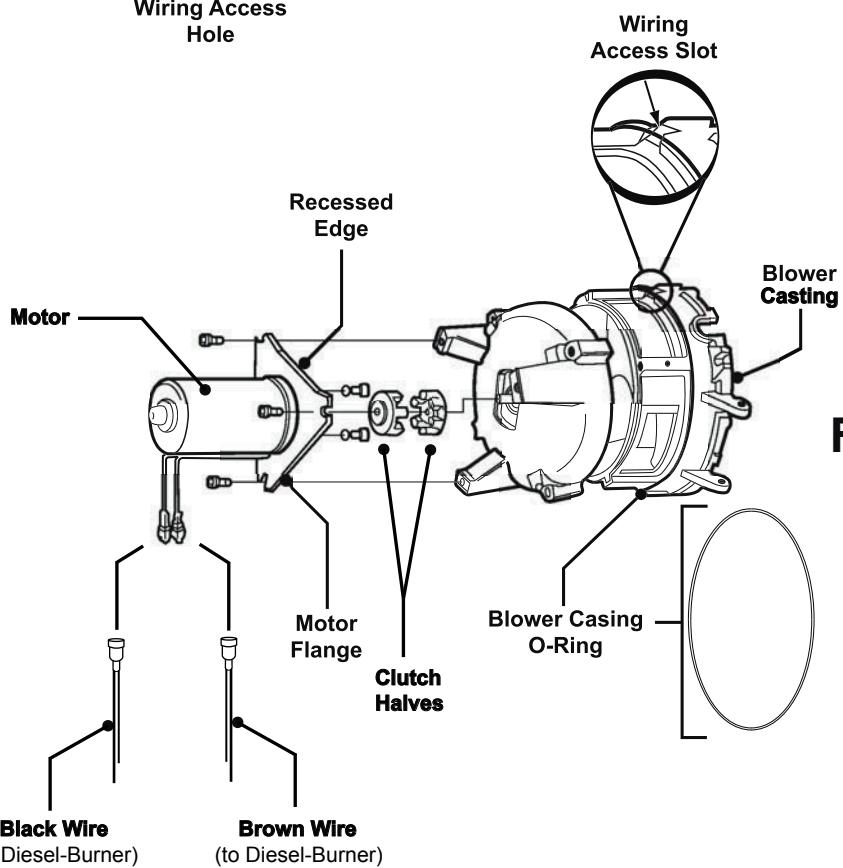

Figure 14
- B:** The *Motor* must be mounted to the flange with the *wires* and drain hole pointing downward and the recessed edge of the *Motor Flange* pointing upward; reference Figure 14. This will ensure a proper *Protection Housing* fit.
4. Reinstall a *Clutch Half* on both the new *Motor*'s shaft and the Combustion Air Blower's shaft. Attach the *Motor* and the flange assembly, with the recessed edge of the *Motor Flange* in-line with the *Wiring Access Slot* of the *Blower Casting*, to the *Blower Housing* with the three *Hex Head Screws*; reference Figure 14.
NOTE: Inspect the Blower Casing's O-Ring for damage or wear prior to reinstalling the Diesel-Burner Head's *Protection Housing*; reference Figure 14. If damage or wear exists, replace the O-Ring. Reference the Aqua-Hot's "Parts Manual" for spare parts information.